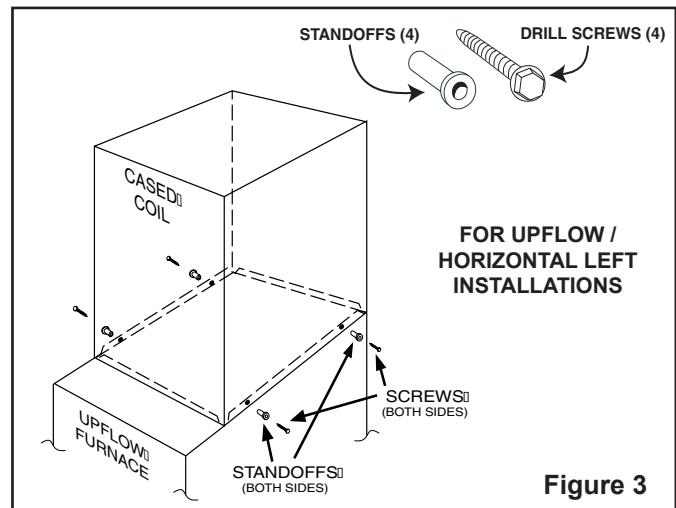

Figure 3
3. Insert standoffs into clearance holes in coil cabinet and use self-drilling screws to align coil and furnace. See Figure 3. Seal all gaps between the furnace and coil.